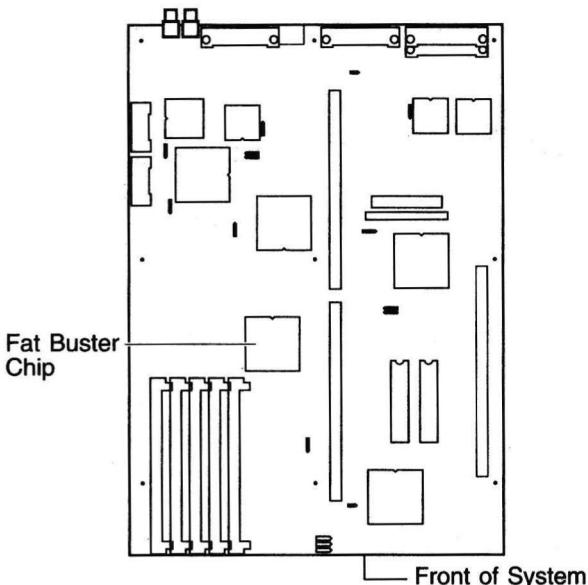

Figure 1. The A4000 Motherboard
2. Carefully remove any expansion boards that obstruct your view of the chip, shown in Figure 1. Refer to the *A4000 User's Guide* for detailed instructions on removing expansion boards.